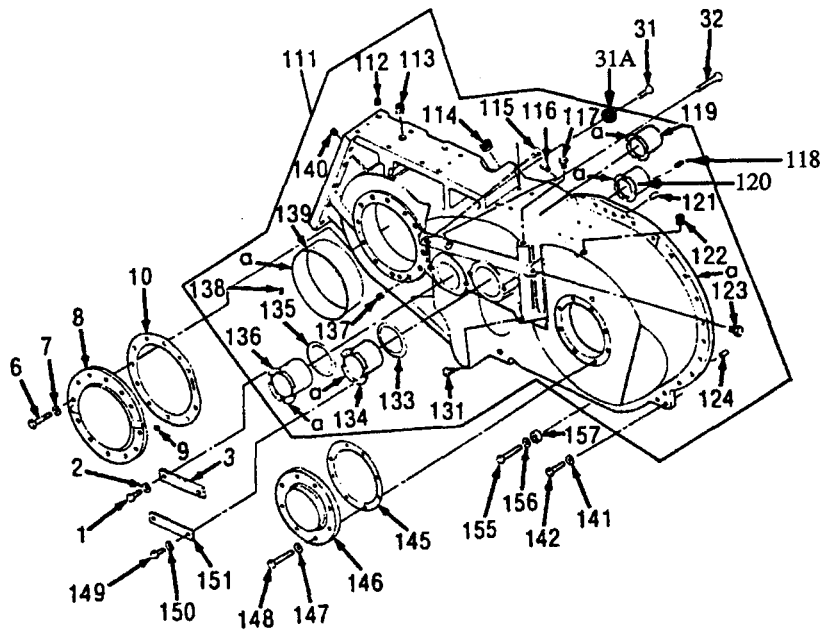

Figure 373.1. Addendum to Figure 373 (fold-out 2)
- 2-Change to Lock washer (2) for later models (see Fig. 373.1)
- 30-Lock washers -Change quantity from (10) to (4) (ship loose)
- 141-Lockwasher-Change quantity from (16) to (12) (ship loose)
- 142-Capscrew-Change quantity from (16) to (12) (ship loose)
- 150-Change to Lock washer (2); for later models (see Fig. 373.1)
- 155-Add Hexagon cap screw (ship loose) (4) (see Fig. 373.1)
- 156-Add Lock washer (ship loose) (4) (see Fig. 373.1)
- 157-Add Spacer (ship loose) (4) (see Fig. 373.1)